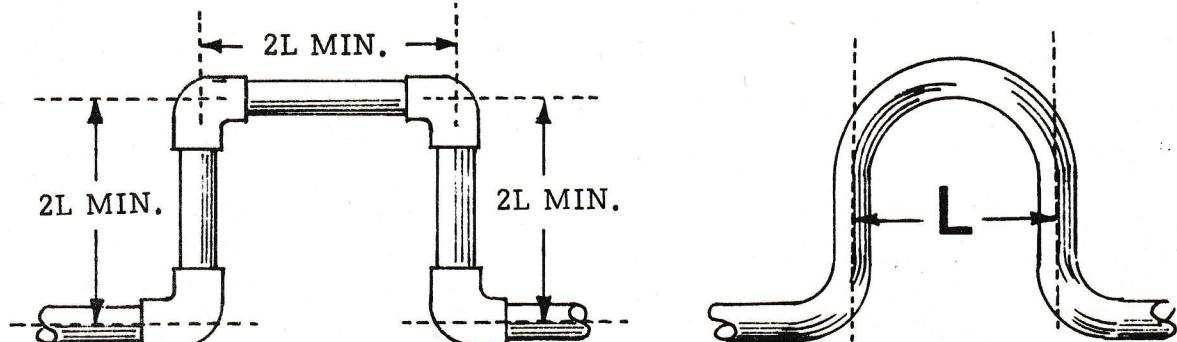

Figure II-7
Figure II-7 shows the method of constructing an expansion loop. Length (L) is determined by applying the expected linear expansion from Table II-2.